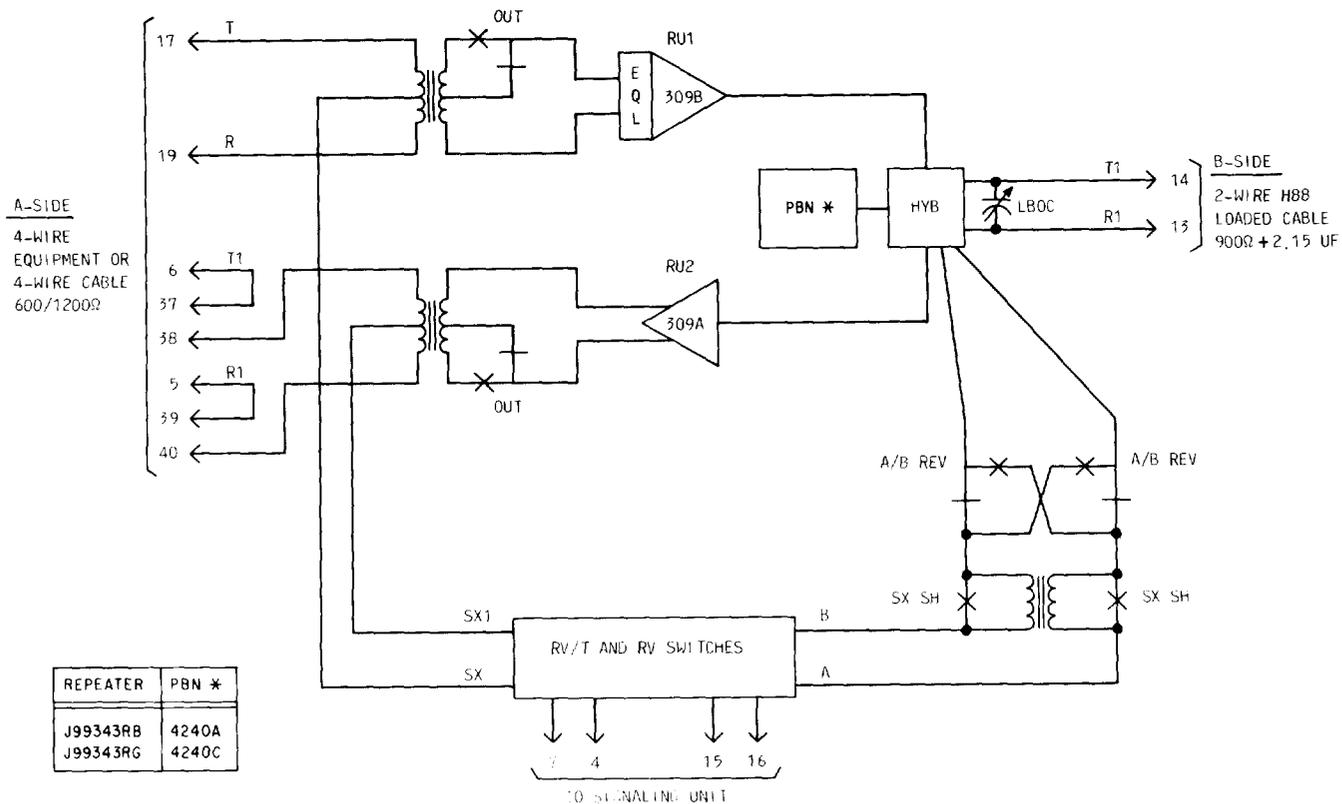

Fig. 1—Block Diagram of the 4-2 Intermediate/Terminal Repeater (L), J99343 RB (MD), RG (MD)
1.04 The J99343RB and RG repeaters provide B-side 2-wire circuitry to interface standard gauges of 2-wire H-88 loaded facilities (Fig. 1). The J99343RB unit is MD, replaced by the J99343RG which is additionally compatible with 25-gauge Metropolitan Area Trunk (MAT) Cable. The J99343